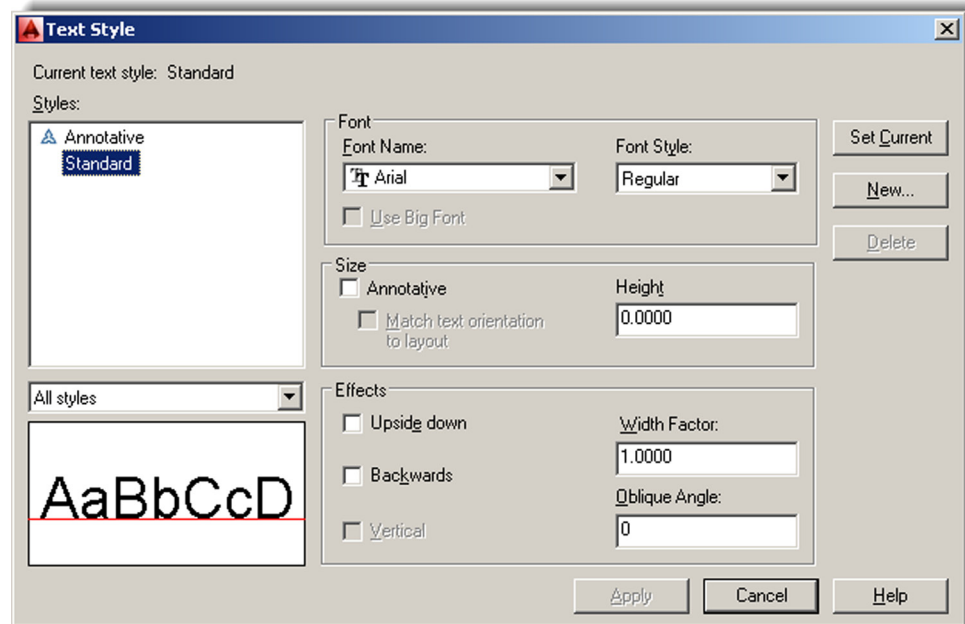

FIGURE 4.12
Step 1. Begin the style command via any of the preceding methods. Whichever method you use, the Text Style dialog box of Figure 4.12 appears. Taking a look at this dialog box, let us say Arial is not what we want here; we would like to set a RomanS font that is 6" high instead.